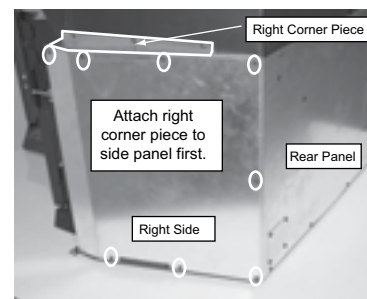

Figure 18.4
4. Assemble the right corner and right panel pieces using 4 screws prior to attaching to insert. **Figure 18.4.**
5. After assembly, attach the right shroud panel/corner piece assembly to the insert with 3 screws across the bottom and 1 on the side. **Figure 18.4.**